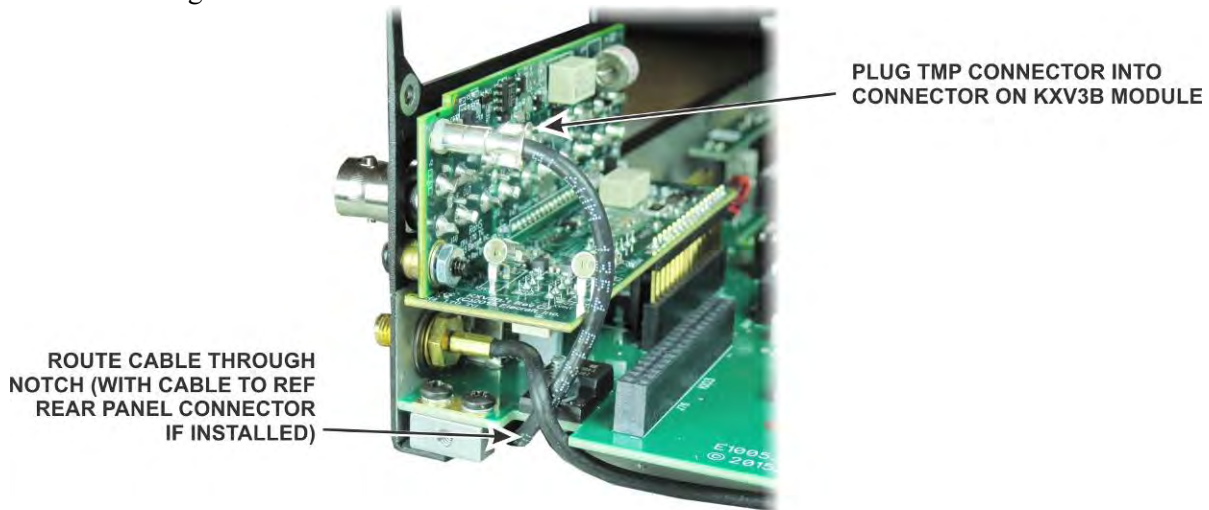

Figure 55. Connecting Coax Cable to KXV3B Module.
□ Plug the TMP coaxial connector into the KXV3B module and route the cable through the notch in the RF board as shown in Figure 55.
⚠ Be sure the coaxial cable(s) shown in Figure 55 passes through the notch in the RF board and are not trapped between the edge of the board and the side panel.